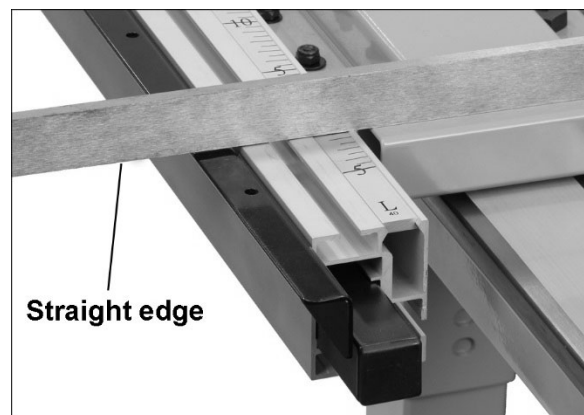

Figure 7-21
3. Place straight edge over table and angle adjusting rail at front and back, to ensure that rail is level with table along its entire length. See Figure 7-21.